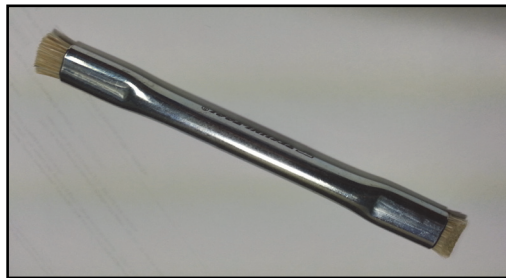

Figure 1 Cleaning Brush
**Usage:** Due to environmental conditions where JCM products are used, periodic maintenance is required to ensure optimum product performance. The Cleaning Brush (**Figure 1**) is used to remove dust, dirt and debris from the rollers, gears, and other surfaces on JCM products (such as bill validators, printers, and cash boxes).